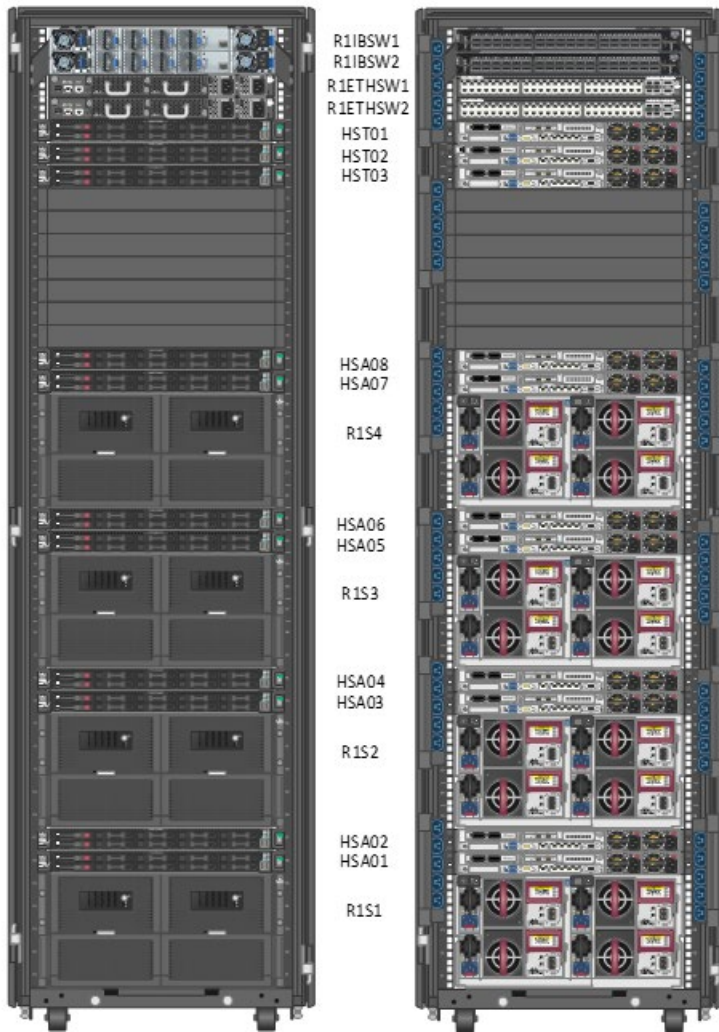

FIGURE 6. Front and rear views of a “Full Rack” in an HPE ConvergedSystem 300 for Microsoft Analytics Platform
- An additional PDW Failover Server. This server will be known as HST03. This server will be physically racked together (shown in Figure 6 below) with the other HST servers.
- Up to three additional scale units, with each scale unit made up of two (2) HPE ProLiant DL360 Gen10 servers, (HSAxx), along with one D6020 disk enclosure.
In Figure 6 below, a fully populated rack is shown. This system has the optional HST03 server as a secondary failover server for the PDW workload. Four Scale Units are installed, the maximum capacity for a single rack.
In this “Full Rack” configuration (Figure 6), all possible servers for an HPE ConvergedSystem 300 for Microsoft Analytics Platform solution that can be purchased for a rack are included (solution can scale up to seven racks). The solution includes the InfiniBand and Ethernet switches, a management server (HST01), two failover servers (HST02 and HST03), and four scale units.